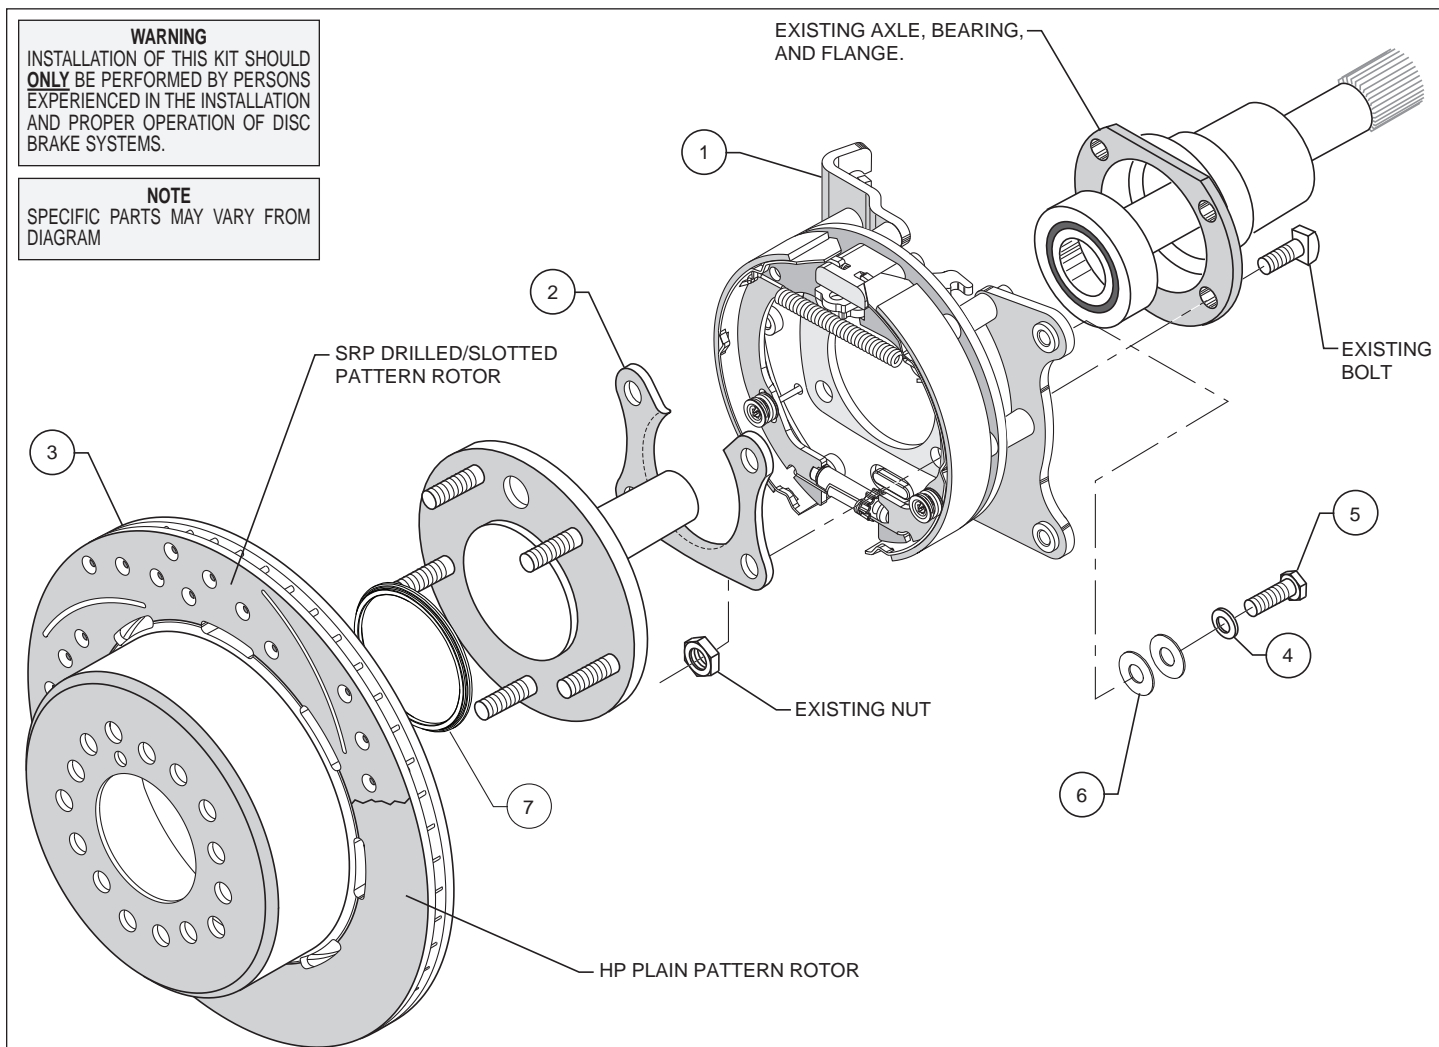
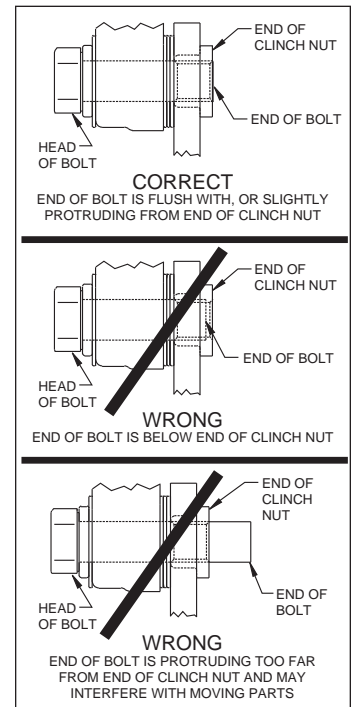

Figure 1. Typical Installation Configuration
Figure 4. Clinch Nut Engagement Diagram
Assembly Instructions (numbers in parenthesis refer to the parts list, and Figure 1 on the preceding pages): **CAUTION:** All mounting bolts must fully engage clinch nuts. Be sure to check that all bolts are either flush or protruding through flanged side of clinch nut after shimming, Figure 4.
- Orient the bracket assembly (1) as shown in Figure 1 and Photo 1 and slide it onto the axle. Insert the axle and bracket into the axle housing. Ensure that the bracket assembly backing plate fits flush against the axle housing flange.
- Install the bearing retainer (2) with the opening pointing upward and the lip facing inward (toward the bearing), as shown in Figures 1 and 4, and Photo 2. Secure retainer and bracket assembly to the axle housing flange using the Original Equipment Manufacturer (OEM) bolts and nuts, Figure 1. Apply red *Loctite*® 271 to the OEM bolt threads and torque to OEM specifications.
- Slide the rotor registration adapter (7) onto the axle register on the axle flange with the smaller O.D. facing toward the rotor/hat (3), Photo 3. Align the correct hole pattern in the rotor/hat with the stud pattern on the axle flange and slide into place, Figure 1 and Photo 4. **NOTE:** The rotor/hat must fit flush against the axle flange or excessive rotor run out may result. Install three lug nuts (finger tight) to keep the rotor/hat assembly in place while continuing with the installation. **NOTE:** Some OEM and after market axles come with stud sizes larger than 0.50" diameter. Verify stud size and have a qualified machine shop drill the bolt circle of the hat/rotor to the correct stud size, if necessary.
•**NOTE:** Please reference the caution statement at the beginning of the assembly instructions. Mount the caliper (customer supplied) onto the caliper mounting bracket (1) using bolts (5) and washers (4), as shown in Figure 1. Initially place two .035" thick shims (6) on each bolt between the caliper and the bracket. Temporarily tighten the mounting bolts and view the rotor through the top opening of the caliper. The rotor should be centered in the caliper. If not, adjust by adding or subtracting shims between the bracket and the caliper. Always use the same amount of shims on each of the two mounting bolts. **NOTE:** The end of each bolt must be flush with or slightly protruding from the head of the clinch nut, as shown in Figure 4. If necessary place spare shims (6) between washer (4) and caliper mounting ear to achieve the proper clinch nut engagement. Once the caliper alignment and clinch nut engagement are correct, remove the bolts one at a time, apply red *Loctite*® 271 to bolt threads, and torque to 40 ft-lb.